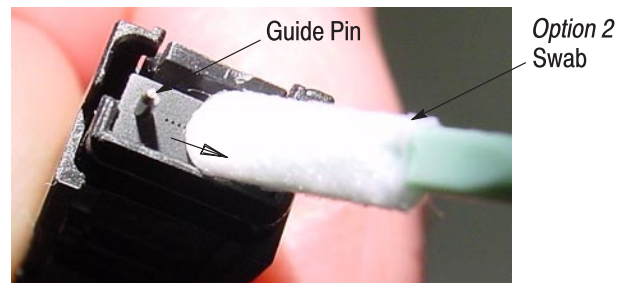

Figure 5
5. Option 2 (refer to Figure 5):